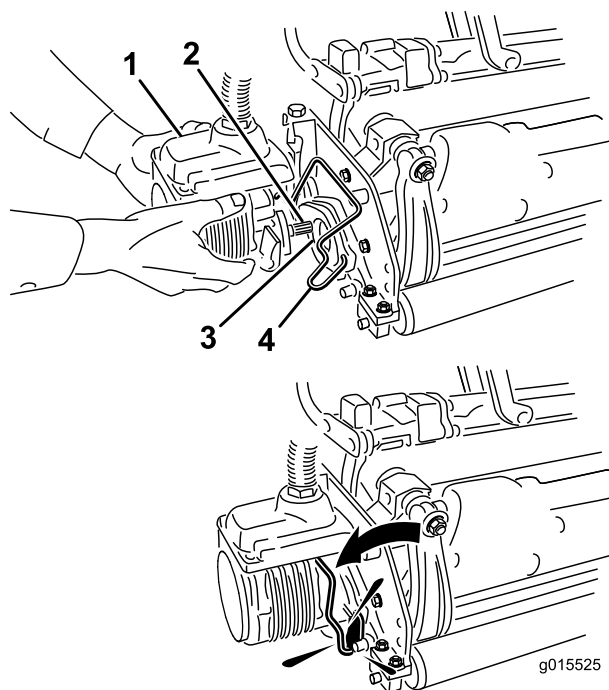

Figure 15
11. Coat the spline shaft of the cutting unit motor with clean grease (Figure 15).
12. Insert the motor into the left side of the cutting unit (as viewed from the operator’s position) and pull the motor retaining bar on the cutting unit toward the motor until you hear an audible “click” from both sides of the motor (Figure 15).